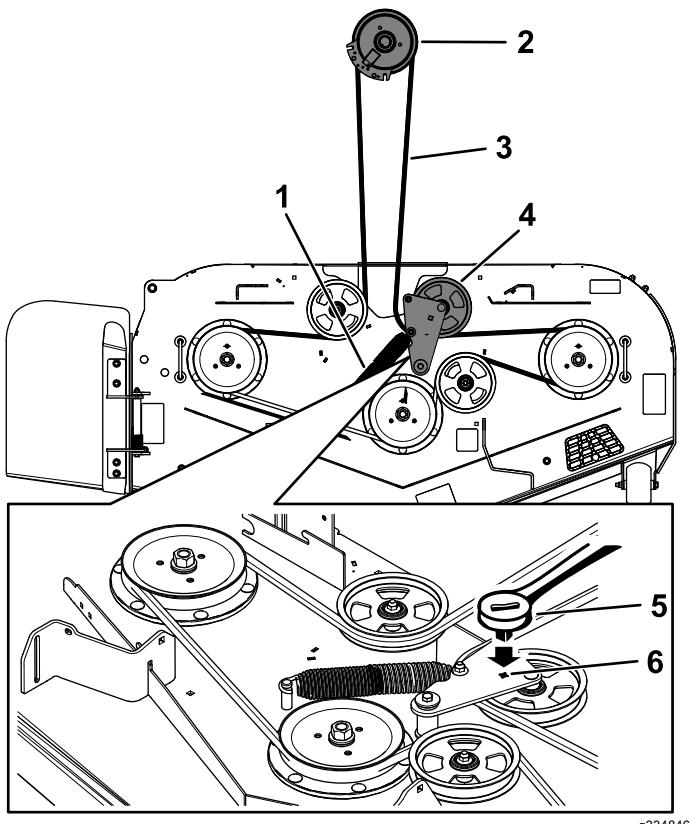

Figure 68
5. Use a 3/8-inch ratchet in the square hole in the idler arm to remove tension on the idler spring (Figure 68).
7. Remove the belt guide on the spring-loaded idler arm (Figure 68).
9. Install the new belt around the mower pulleys and the clutch pulley under the engine (Figure 68).
10. Install the belt guide on the idler arm (Figure 68).
11. Using the 3/8-inch ratchet in the square hole, install the idler spring (Figure 68).